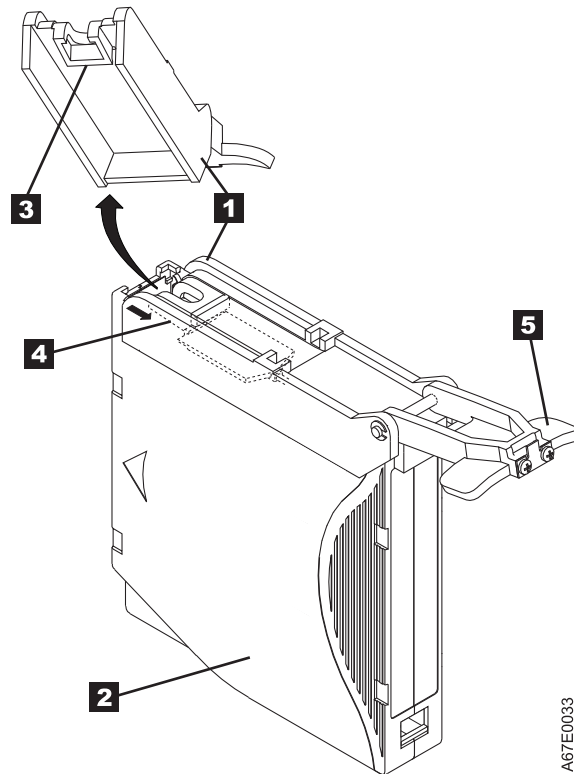

Figure 6-12. Attaching the leader pin attach tool to the cartridge. To hold the cartridge door open, hook the tool into the door and pull the tool back.
1. Attach the leader pin attach tool (1 in Figure 6-12 on page 6-15) to the cartridge 2 so that the tool's hook 3 latches into the cartridge's door 4 . Pull the tool back to hold the door open, then slide the tool onto the cartridge. Open the tool's pivot arm 5 .